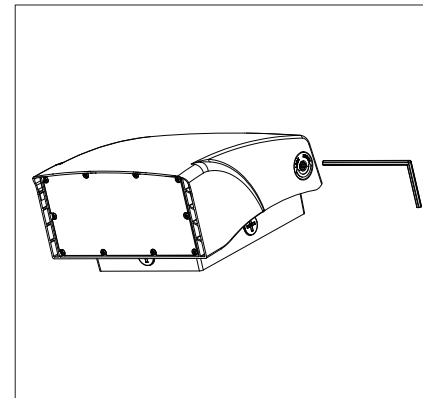
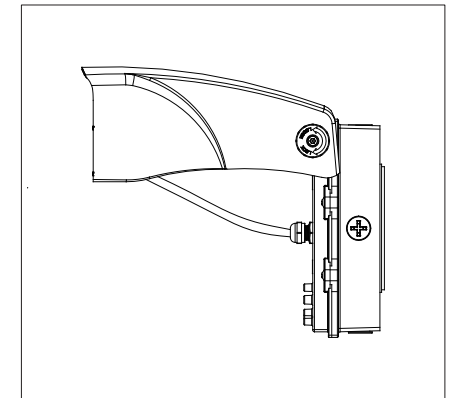

Figure 1
Figure 2
Step 1: Loosen the screws on the side fixture housing with an Allen wrench, and rotate the front housing to 90 degrees (Figure 1 & Figure 2);